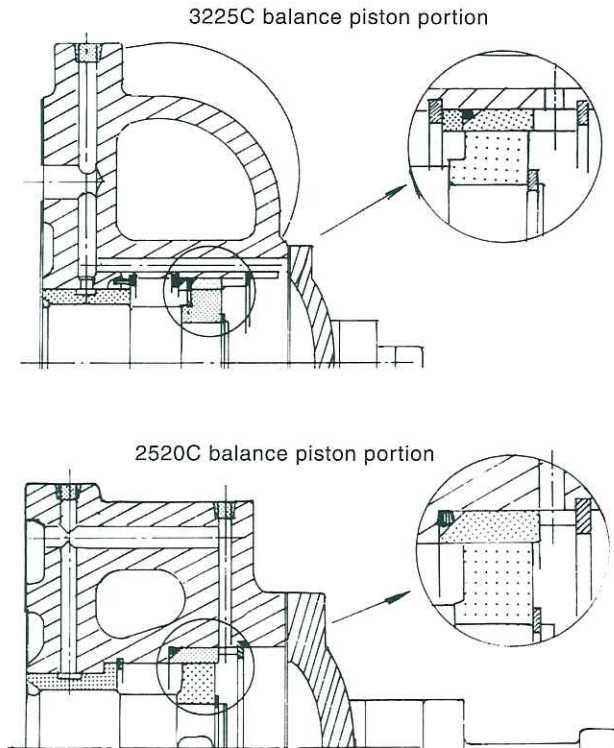

Fig. 73 Balance Piston Section
collar and is fitted with a snap ring (37) and an O-ring retainer (36) while the other uses a balance piston with an inner diameter equal to the inner diameter of the side bearing collar and utilizes the stepped portion of the suction cover as the O-ring retainer (Fig. 73).